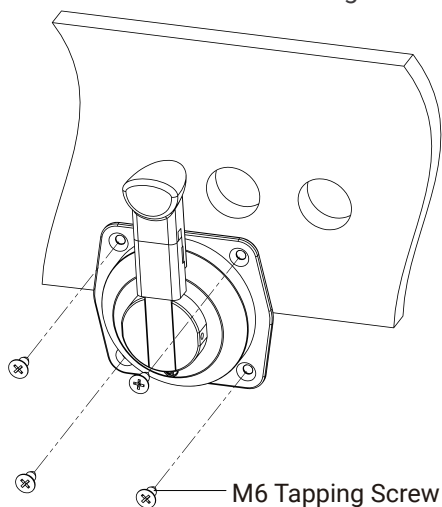

Figure 2-4
- ② Fix the throttle to the side of the boat referring to the figure 2-4.